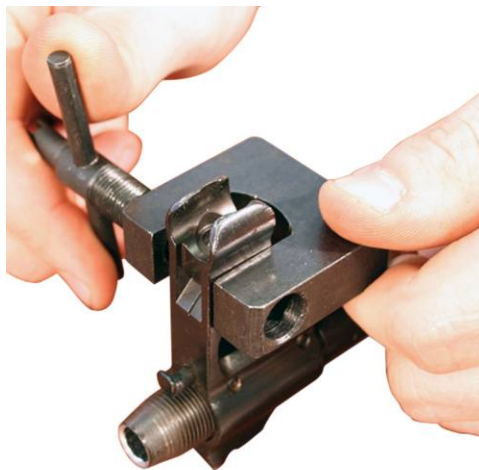

Figure 52. Installing the Windage Drum.
- a. Using the front sight adjustment tool, install the windage drum into the front sight base. Refer to Figure 52.